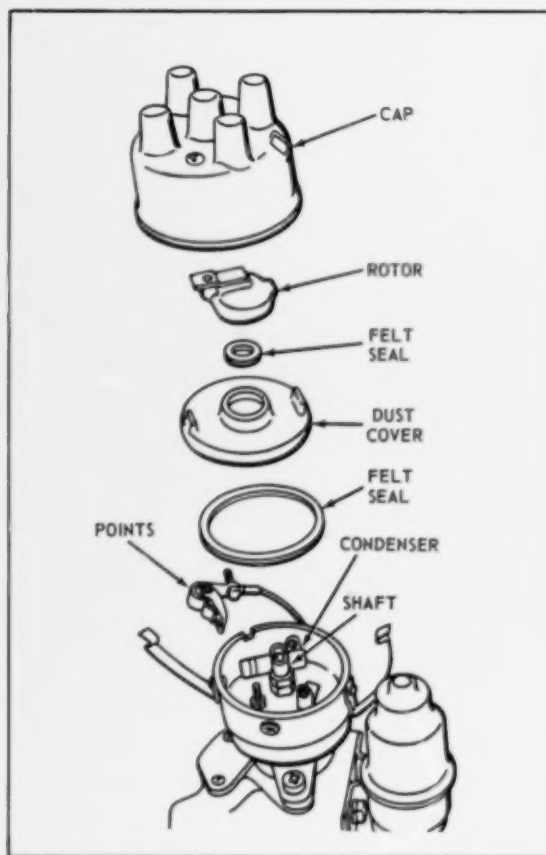

Fig. 56—Distributor Rotor
4. Remove the rotor (Fig. 56) and clean it. Inspect for cracks or excessive burning of the metal strip. Replace the rotor if these signs of damage are present.